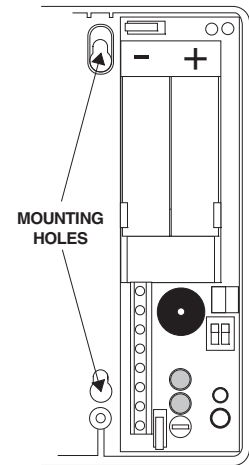

Figure 4. Mounting Hole Locations
- Place the sensor base at the desired location on the wall or ceiling (over tamper screw if installed) and mark the narrow portion of the mounting holes (see Figure 4).